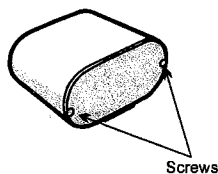

Fig. 2
- 2.) Remove the 2-back screws from the infrared sensor/transmitter to open the unit (Refer to Fig. 2).